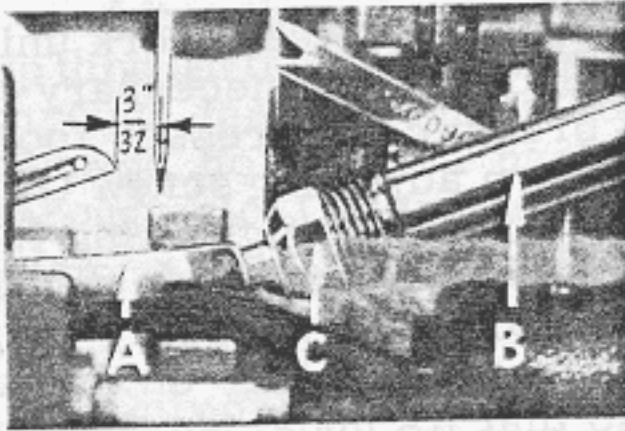

Fig. 4
At this point, insert lower looper (A, Fig. 4) on Styles 39500 FF, FG, FH or JD or lower spreader on Style 39500 GN into bar (B). With lower looper or spreader at left end of its stroke, set looper or spreader point $\frac{3}{32}$ inch from center of needle (Fig. 4 or 4A) using looper gauge No. 21225-3/32. Do not have lower looper or spreader deflecting needle. Tighten nut (C). Now assemble differential (front) feed dog.